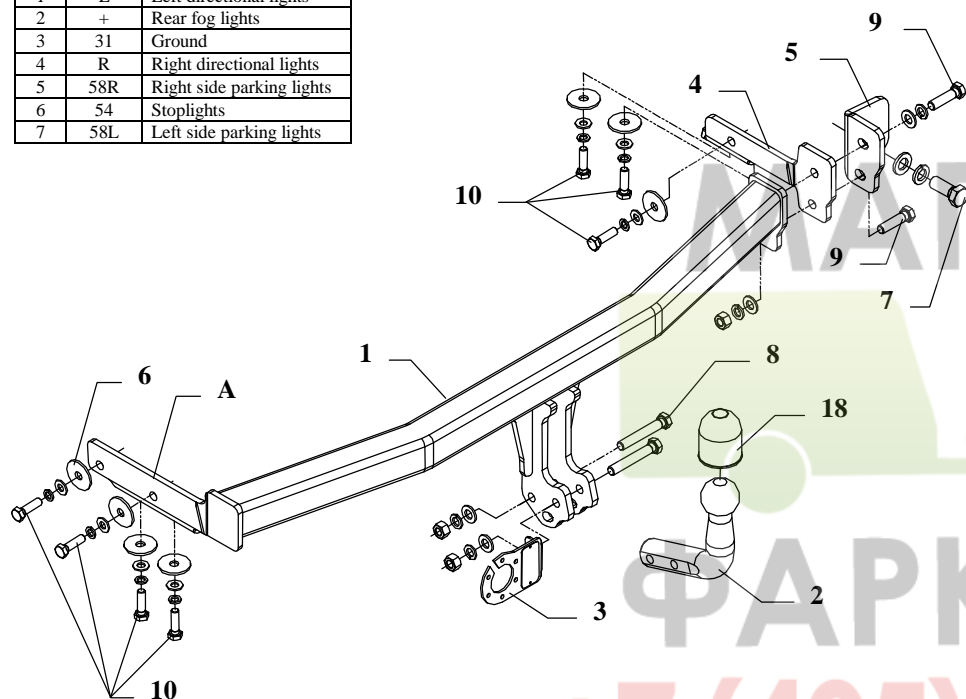
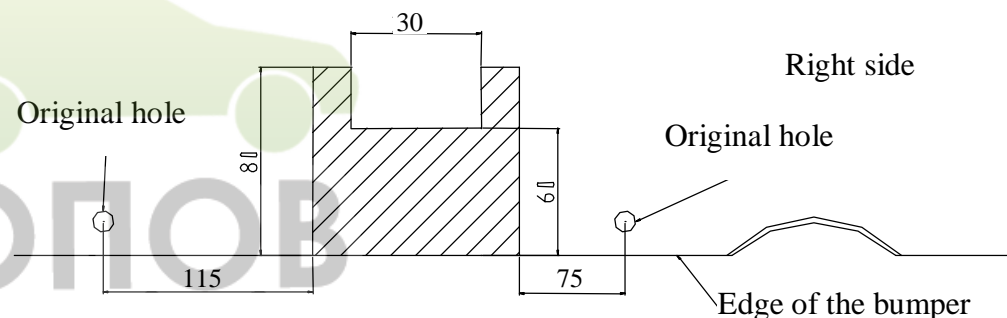

Fig. 1
Fig. 2
2. To right chassis member slide bracket (pos. 4) and screw loosely with bolts M10x35mm (pos. 10) through original holes.
3. Put main part of the towbar (pos. 1) (part A in left chassis member) and screw loosely with bolts M10x35 and screw all together with mounted bracket (pos. 4) and angle element (pos. 5) with bolts M12x45mm (pos. 9) as shown in the fig. 1.
4. Angle element (pos. 5) screw with bolt M16x40mm – pos. 7 (instead of original tow handle).
5. Reassemble the muffler and the bumper (after cut out his fragment) see fig. 2
6. Fix tow-ball (pos. 2) and socket plate (pos. 3) using bolts M12x75mm (pos. 8) from accessories.